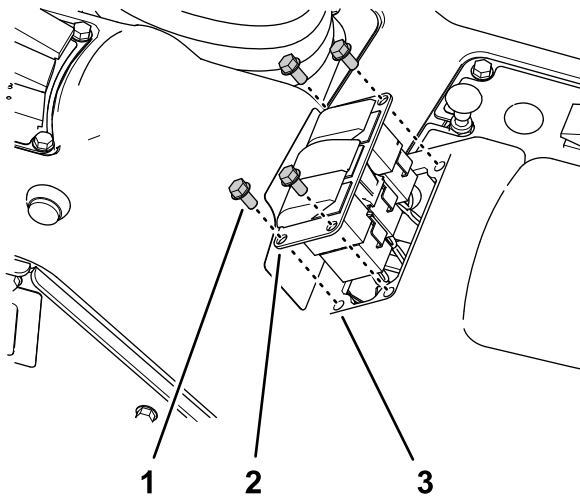

Figure 245
1. Remove the 4 flange head screws (1/4 x 1/2 inch) that secure the 3-switch panel to the control console (Figure 245).
6. Align the switch plug to the opening in the 3-switch panel where you removed the rate switch (Figure 245).
7. Insert the switch plug into the 3-switch panel until the plug snaps into the panel securely (Figure 245).
3. Disconnect the 8-socket connector of the machine wire harness (labeled **Rate Switch**) from the 8-pin connector of the switch (Figure 245).